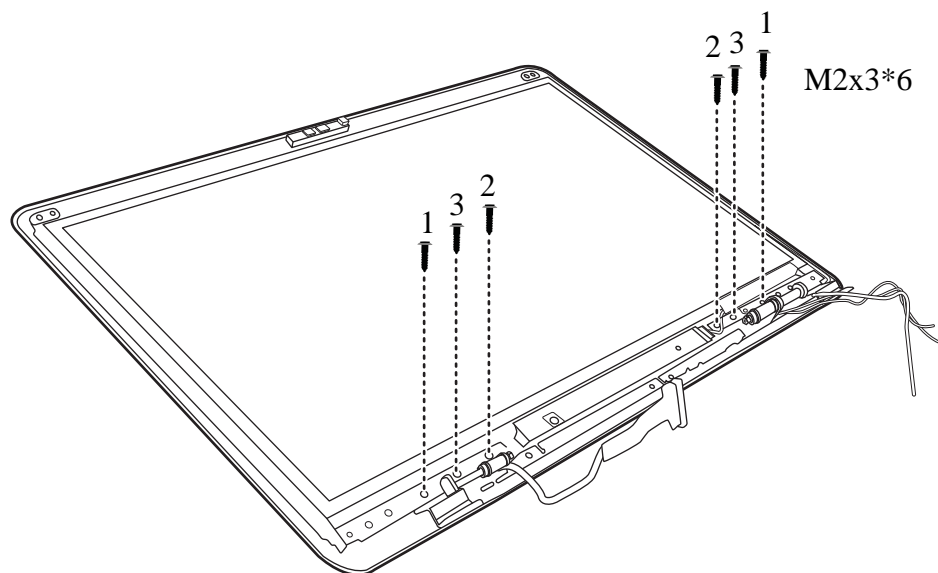

Figure 4.40 Removing the LCD Module from the LCD cover assembly
2. Remove six M2x3 screws securing the LCD module according to the sequence indicated in the Figure 4.40.